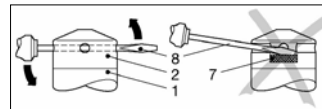

Fig. 2: Removal of protective cap
2. Hold the probe with one hand on the probe section (Fig. 2 – 1).
3. Pull off the protective cap (Fig. 2 – 2) with the other hand.
2. Slide a thin tool (Fig. 2 – 8), e.g. a screwdriver, through two opposite bores of the protective cap (Fig. 2 – 2).
NOTE – Do not damage the measuring cell (Fig. 2 – 7) under the protective cap!